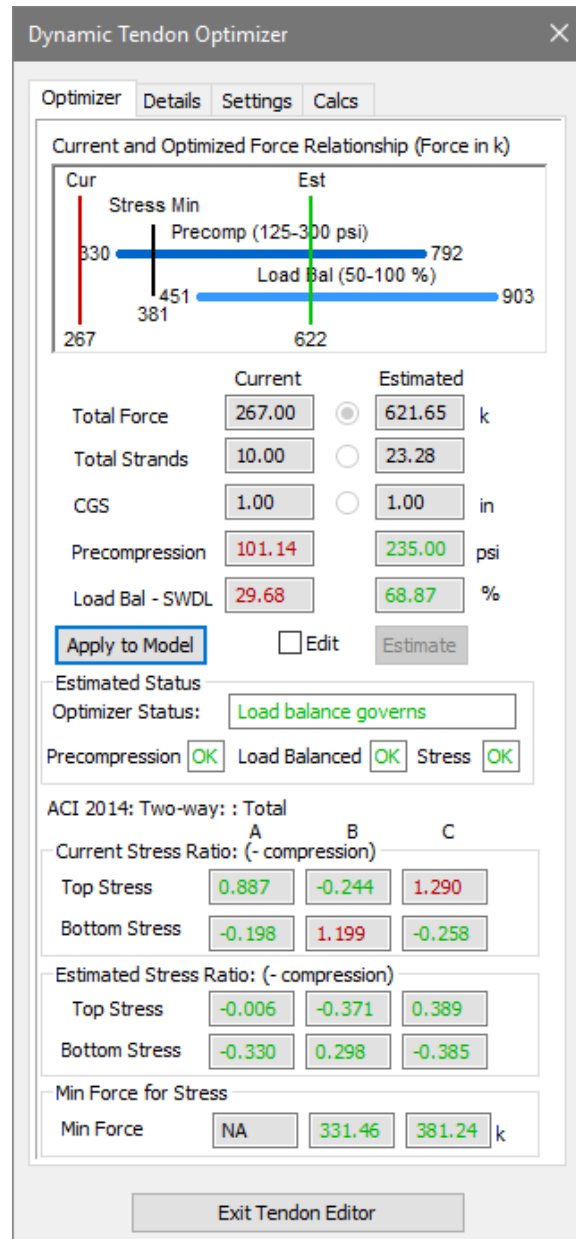

Figure 9-93
- Click on the *Optimizer* tab in the *Dynamic Tendon Optimizer* window. This will bring up the view shown in **FIGURE 9-93**.